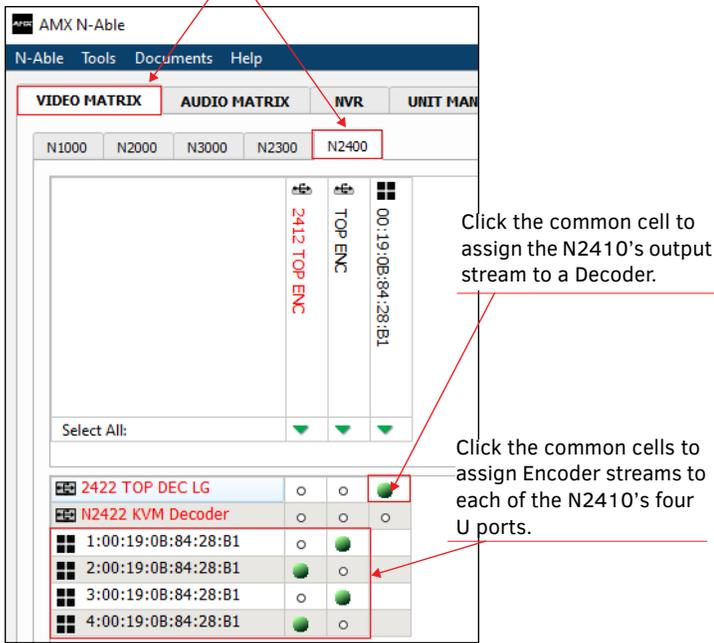

FIG. 5 ASSIGNING STREAMS IN N-ABLE
- Use the **Video Matrix** in N-Able to assign Encoder and Decoder streams to Windowing Processor as described in FIG. 5.